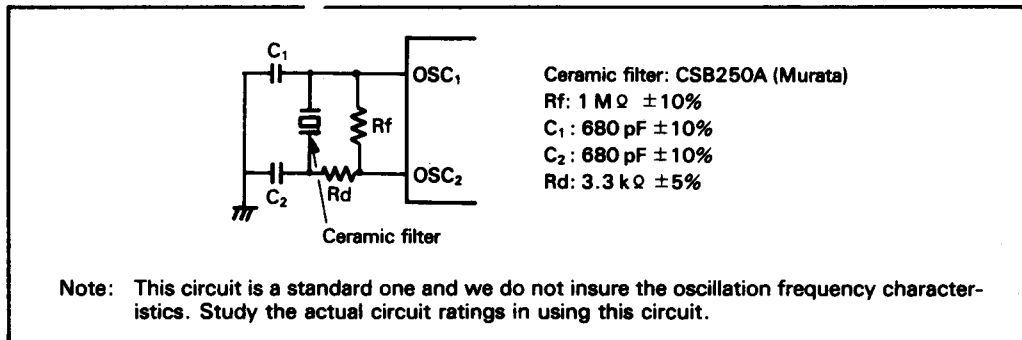

Figure 46 Internal Oscillator, Ceramic Filter
- Internal oscillator operation using a ceramic filter (figure 46).